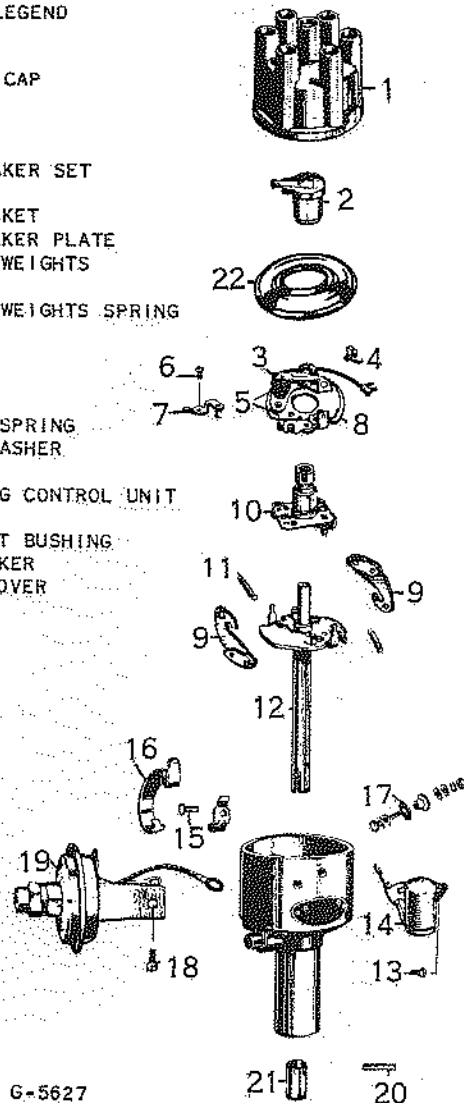

Fig. 3 - Distributor
**DISASSEMBLY (Refer to Fig. 3)**
1. Unfasten spring clips (16) holding distributor cap (1) in place and remove cap.
2. Carefully lift the rotor (2) from the cam spindle, and remove dust protection cap (22).
3. Remove primary terminal (17) by unscrewing the outer nut and condenser (14) by removing two screws (13).
4. Remove screw (6) and link (7) which connects the diaphragm actuating link to the contact breaker plate.
5. Remove two screws (18) and detach the vacuum control unit (19) from the distributor housing.
6. Remove two screws (15) holding the spring clips to the housing and threaded into the contact breaker plate (8) and withdraw plate from housing.
7. Press out driving pin (20) securing drive sleeve and remove sleeve (21).
8. Push shaft (12) from housing by applying light pressure at the drive end.
9. Unhook advance control springs (11) from brackets and remove cam (10) and weights (9).
10. Remove spring clip (3), screw (4) and contact set (5).